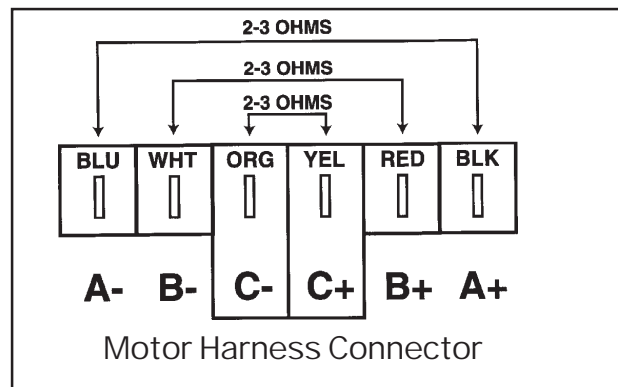

Figure 2-5
2. Remove each pair of phase wires from the motor control and perform an ohm check of each wire leading to the motor. Each wire pair should show 2-3 ohms resistance (*Figure 2-5*).